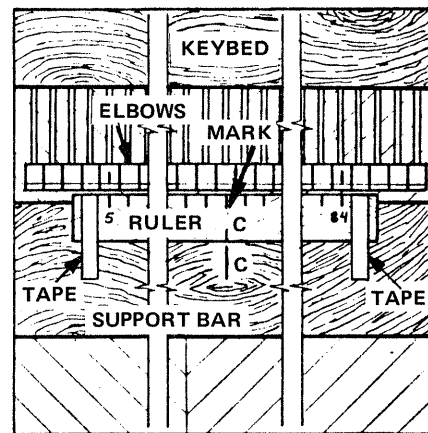

FIGURE 1-32 Align the mark (C) on the stick with the mark (C) on the Support Bar.
Get the wooden stick (48" x 1" x 1/4") from the shipping carton. Measure its length and mark the center of the measurement at the edge of one side. Label the mark with a "C", then set the stick against the Support Bar directly under the Elbows with the mark labelled "C" toward the BOTTOM of the piano (see FIGURE 1-32). Align the mark (C) on the stick with the mark (C) on the Support Bar as shown in FIGURE 1-32. Tape the stick in place with masking tape as shown.
Mark the centers of the Lifter Elbows on the stick, starting from the Key 5 Elbow on the LEFT and going to the Key 84 Elbow on the RIGHT (the Key 5 and Key 84 Elbows are those that were marked). Label the first Elbow center mark on the LEFT end of the stick "5" and the last mark on the RIGHT "84". This stick will be called the Solenoid Alignment Ruler from this point on because it will be used to align the Key Solenoids in Section 5. If you are working with a helper, give the Solenoid Alignment Ruler to him so he can align the solenoids in Section 5 when he is ready. The Elbow center marks are shown on the ruler in FIGURE 1-32 above.